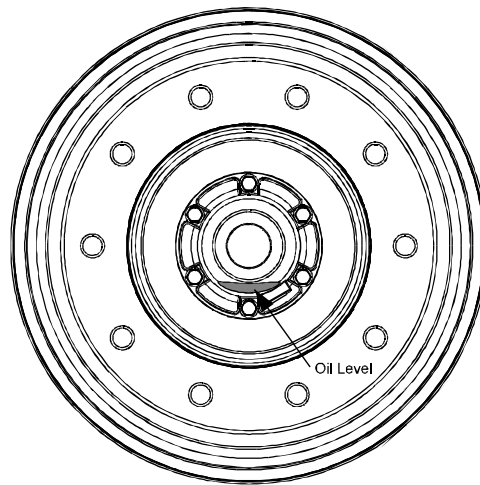

Figure 5 - Wheel Bearing Oil Level
2. Check oil level through hub cap window. If level is below the “add” level line then remove the pipe plug and fill with recommended oil until “full” level is achieved. (Figure 5).